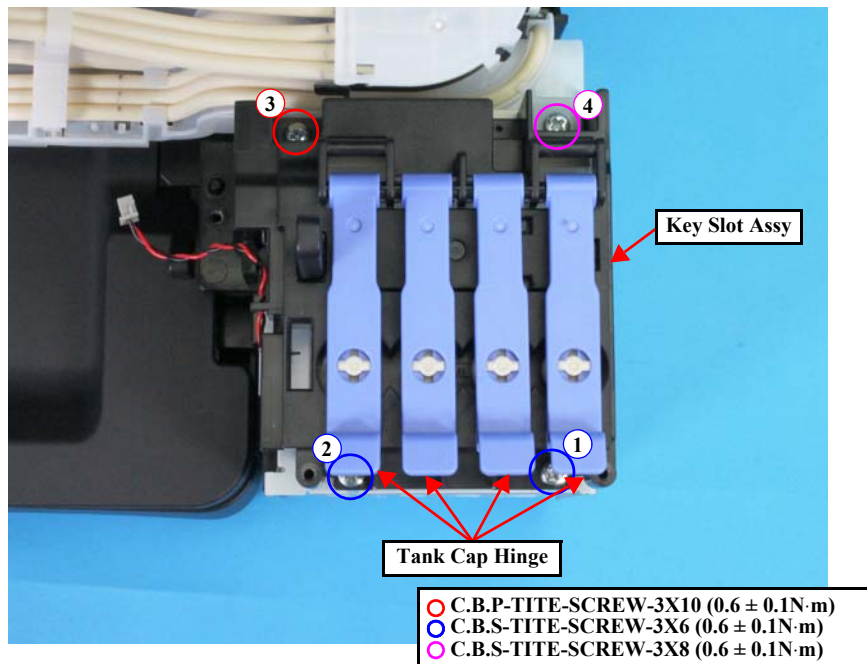

Figure 3-38.
- To prevent ink leakage, replace the Cap Tank from the Cap Hinge Tank on the Key Slot Assy (Figure 3-38) to the ink supply hole of the Ink Tank.
- When attaching the Key Slot Assy, screw in the order shown in Figure 3-38.